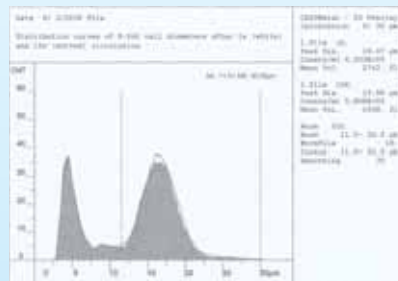

Fig. 7: CASY® 2D Overlay of the K-562 blood cell suspension following 1 and 10 recirculation cycles and dispensing with the CyBi®-Drop 3D.
After 1 and 10 recirculation cycles, cell populations were analyzed in a CASY® Cell Counter and Analyzer System to compare the particle size distribution. As shown in Fig. 7, the particle size profile following 10 times cell recirculation and dispensing with the CyBi®-Drop 3D is very similar compared to the original cell suspension. This indicates the preservation of the cells and their functionality even after multiple cell recirculation cycles. In addition, the metabolic capacity of the cells remained stable (CellTiter-Blue® Cell Viability Assay (Promega)). For further data and experimental details, please see (3).